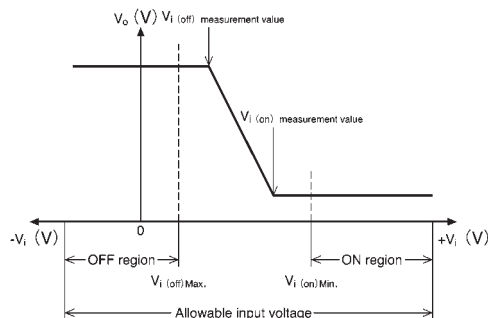

Fig.5 OFF region ON region
- $V_{I(ON)Min.}$: (Input on-voltage) With a forward voltage (V_o) applied between the OUT pin and the GND pin, this is the minimum input voltage needed to make the specified output current flow. In other words, it is the minimum input voltage needed to keep the digital transistor turned ON. To turn OFF the transistor it is necessary to lower the input voltage below this value, and thus the value of a good transistor will go below this. (See Figure 5)
- $V_{I(OFF)Max.}$: (Input off-voltage) This is the maximum input voltage obtained between the IN pin and GND pin when the specified output current (I_o) is applied and the specified supply voltage (V_{CC}) is applied between the OUT pin and GND pin. In other words, it is the maximum input voltage which can be applied and still keep the transistor turned OFF. To turn on the transistor, it is necessary to increase the input voltage above this maximum input voltage, and thus the value of a good transistor go above this. (See Figure 5)